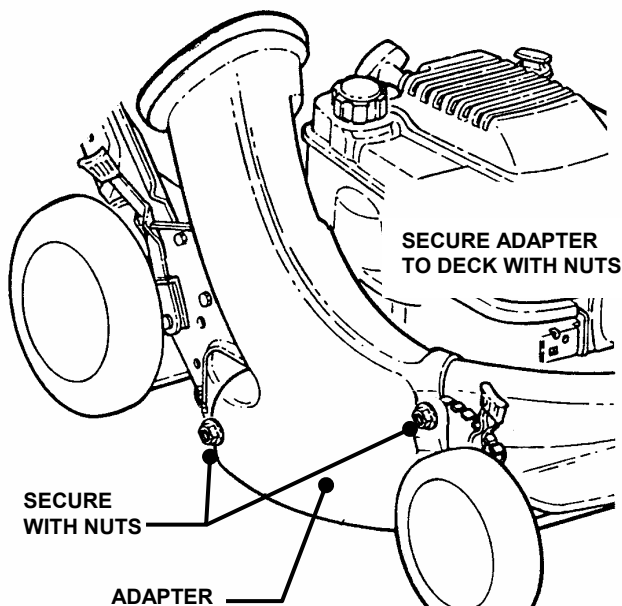

FIGURE 2.10
STEP 1: Install the grass bag adapter and secure to the side and top of the deck with the two nuts provided on the machine. Slot in front edge of adapter must be under nut located on top of deck. See Figure 2.10.